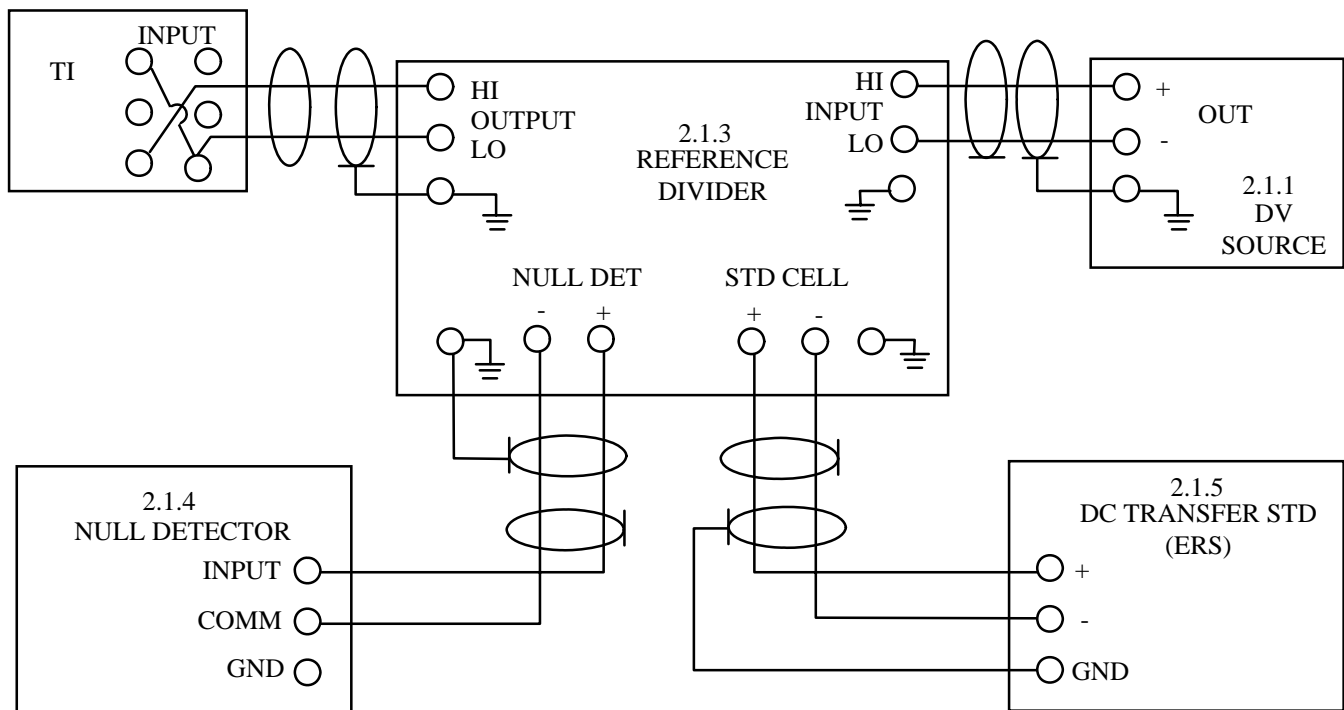

Figure 3. DC Voltage Setup (100 V or More)
4.1.6 Connect the equipment as shown in Figure 3.